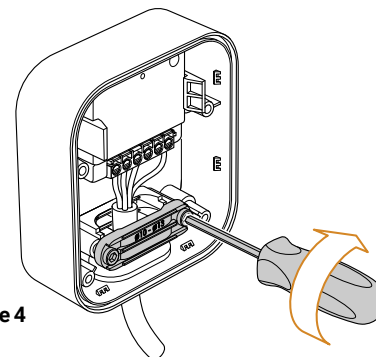

Figure 4
- 5 Tighten the cable grommet - see **figure 4**.